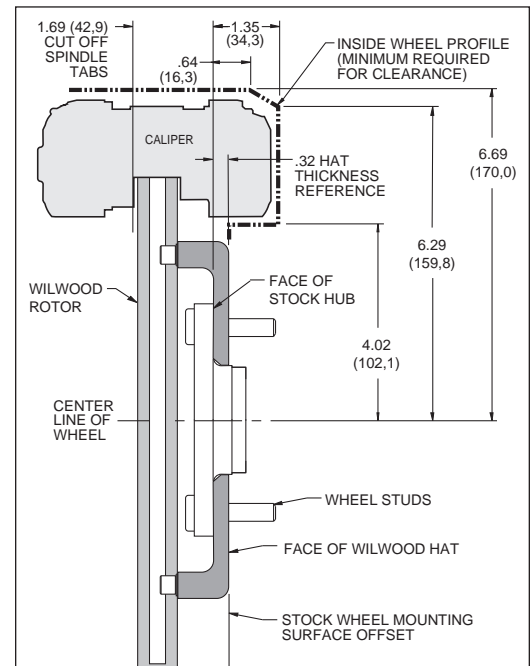

Figure 1. Wheel Clearance Diagram
- Review the wheel clearance diagram (figure 1) to verify that there is adequate clearance with the wheels you will be using with the installation.
- Verify your wheel clearance using Figure 1.